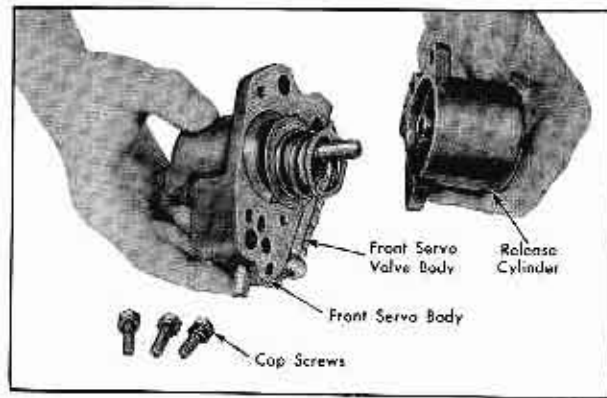

Fig. 14-55 Removing Front Servo Release Cylinder
5. Remove three screws from release cylinder and separate release cylinder from front servo body, Fig. 14-55.